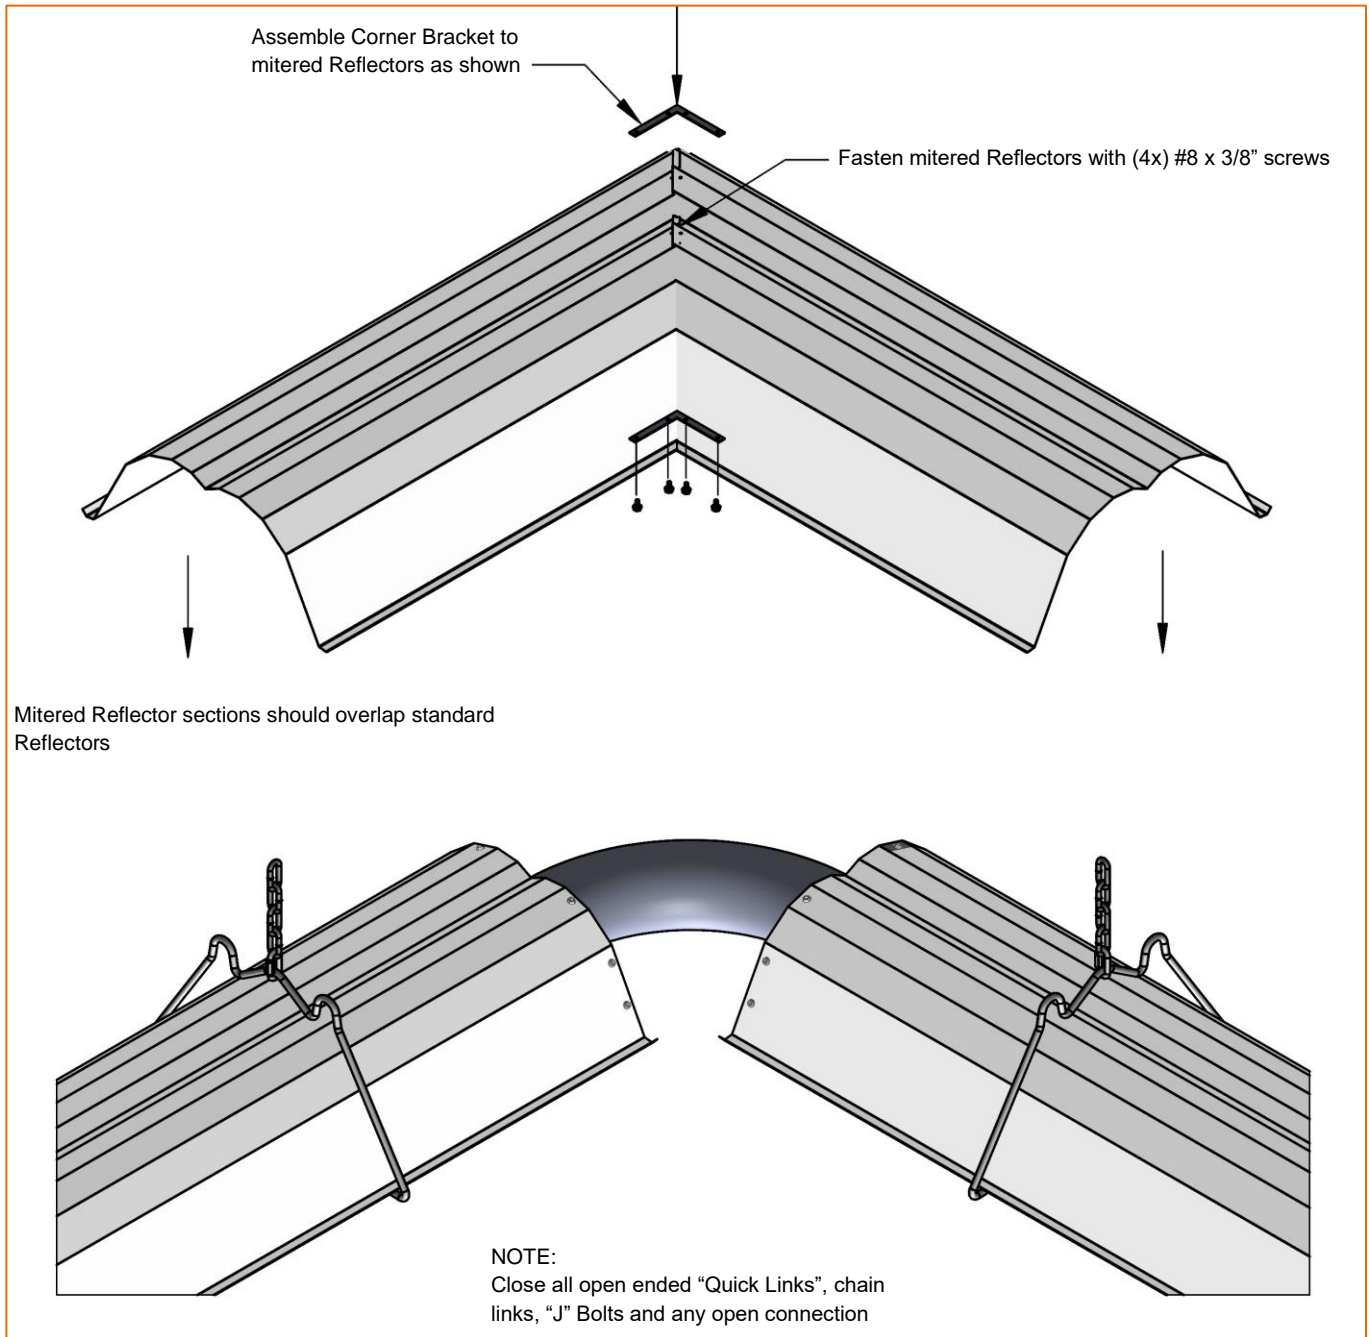

Figure 19: Mitered Reflector Installation
Note: Elbows or U-tubes are typically installed without reflectors. To reduce the above clearance to combustibles distance, use miter reflectors (see Figure 19) and refer to Clearance to Combustibles information.
- If used, install the Mitered Reflector as shown below (Figure 19).